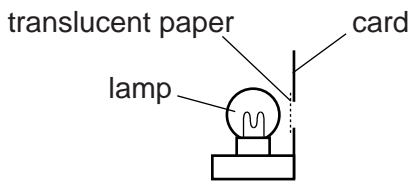

Fig. 3.1
- (ii) Illuminated object with a triangular hole of height 1.5 cm (see Figs. 3.1 and 3.2). The hole is to be covered with thin translucent paper (e.g. tracing paper) secured to the card.